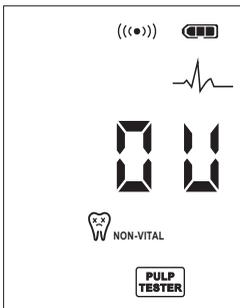

Fig.23
- 2) No sensation at the maximum stimulus (OU) suggests that the tooth is non-vital, at this time, on the screen, a sad tooth and red “NON-VITAL” appear (Fig.23). This conclusion should be confirmed by thermal testing.